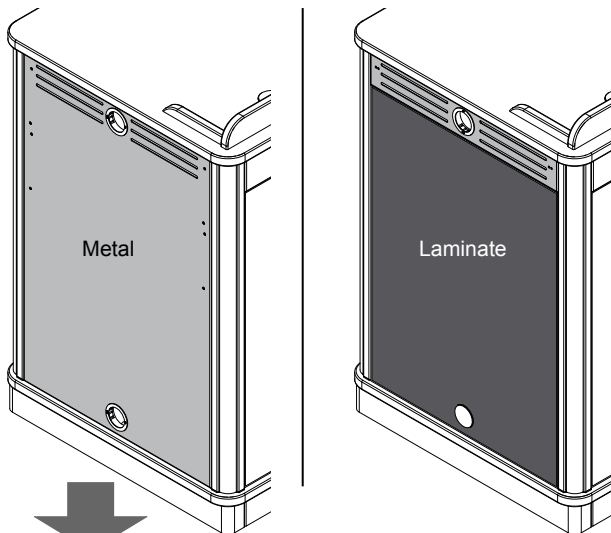

Figure 1A
- Type of side panels your lectern has (metal or laminate) **Figure 1A**